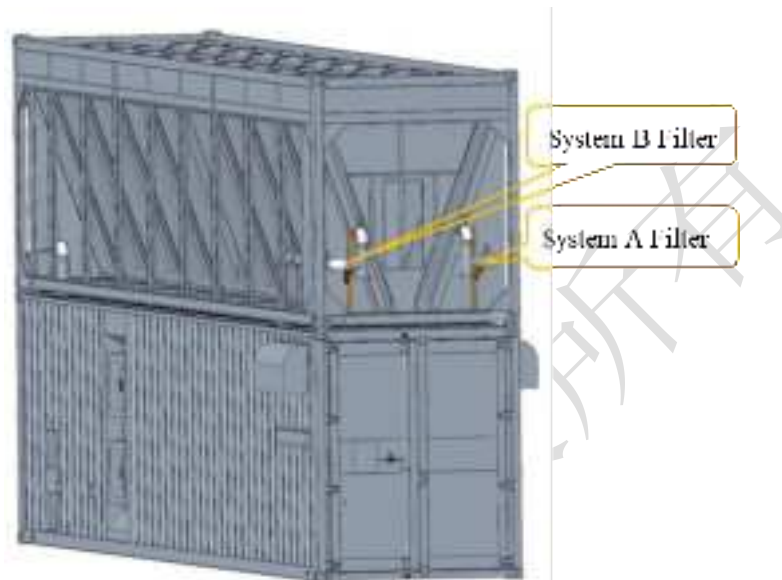

Figure 9.1 Pipeline Access Butterfly Valve and Pipeline Filter Location
- b) Find the service butterfly valve in the system in Figure 9.1 and close it, open the drain ball valve under the pipeline filter assembly, and drain the pipeline locally.